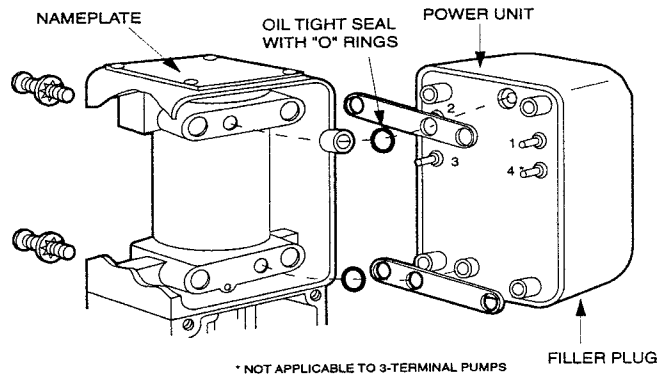

Figure 7. Exploded View of H11 (Covers Removed)
- Remove terminal plate, as described above. Remove four screws holding power unit to frame (figure 7) and pull power unit straight away, noting position of O-rings.